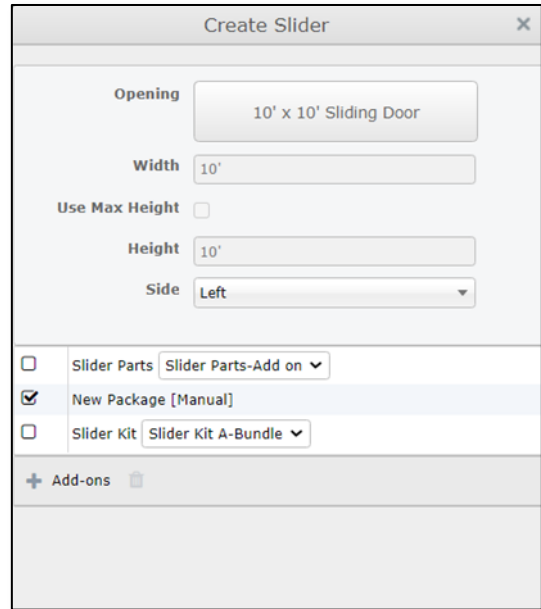

Figure 8: The dialog box for creating a Slider Door.
2. On the *Openings and Building Additions* toolbar at the top of the page, click on the *Slider* command button. The *Create Slider* dialog box will open, as pictured in Figure 8 at right.